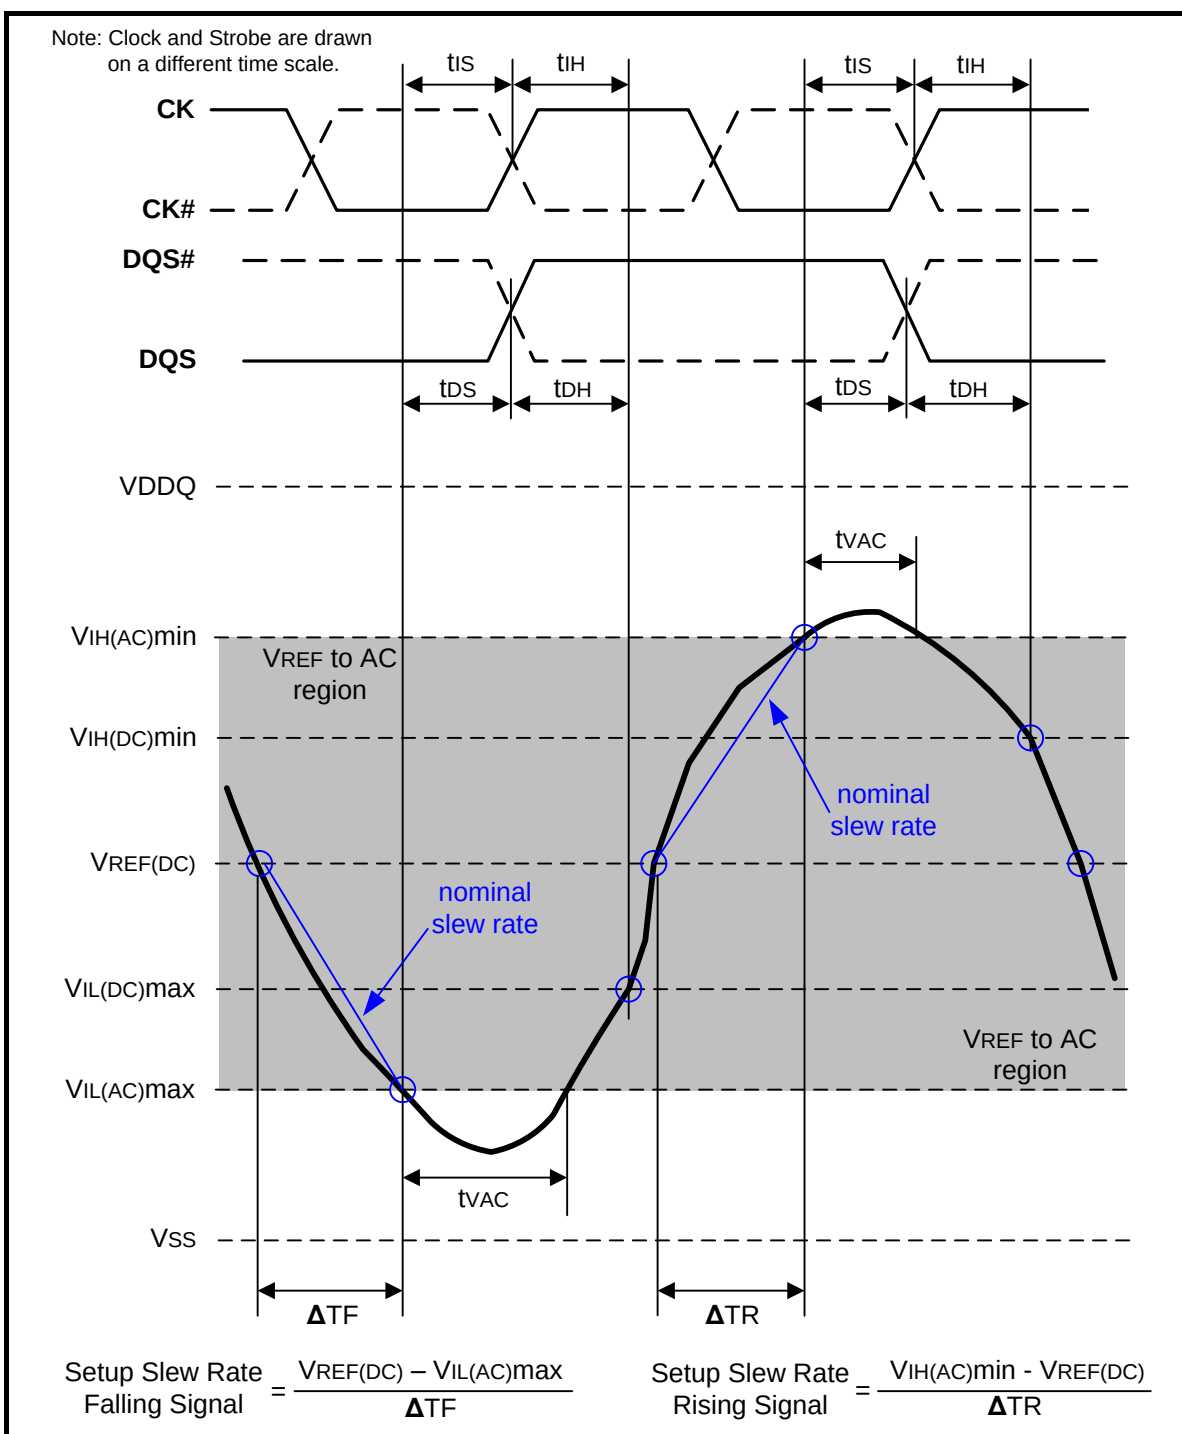
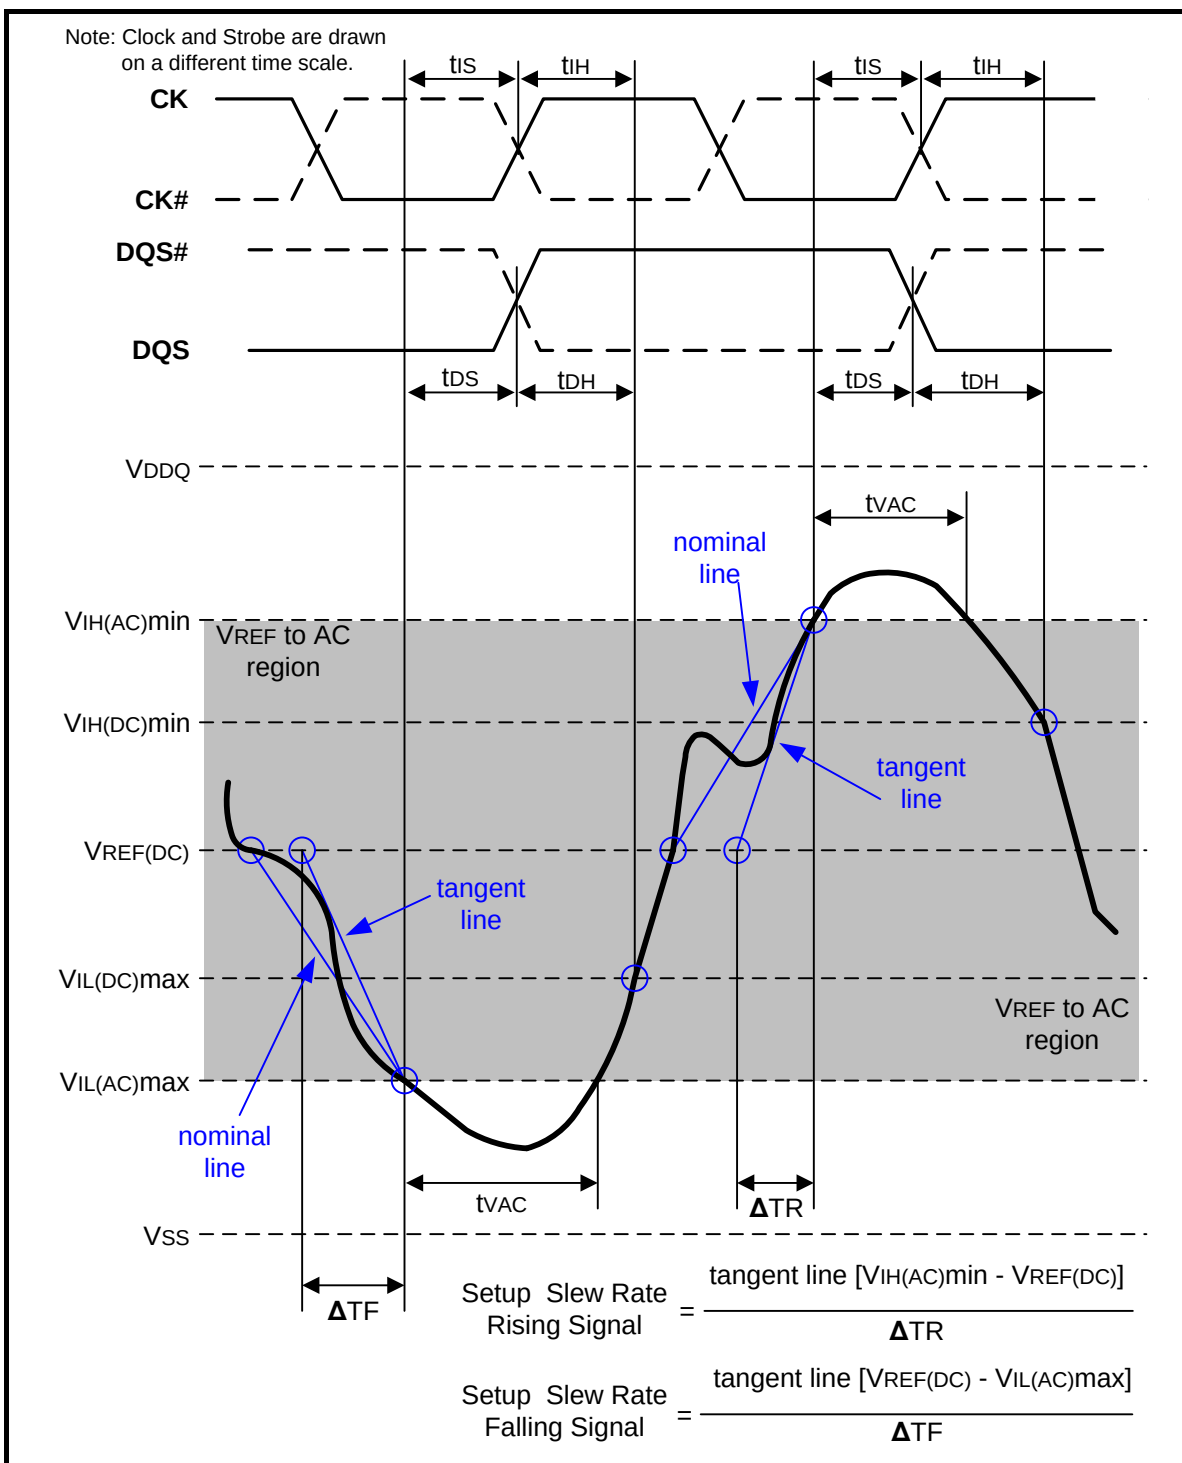

Figure 107 – Illustration of nominal slew rate and t_{vAC} for setup time t_{DS} (for DQ with respect to strobe) and t_{IS} (for ADD/CMD with respect to clock)
Figure 109 – Illustration of tangent line for setup time t_{DS} (for DQ with respect to strobe) and t_{IS} (for ADD/CMD with respect to clock)
Setup (t_{IS}) nominal slew rate for a rising signal is defined as the slew rate between the last crossing of $V_{REF}(\text{DC})$ and the first crossing of $V_{IH}(\text{AC})_{\text{min}}$. Setup (t_{IS}) nominal slew rate for a falling signal is defined as the slew rate between the last crossing of $V_{REF}(\text{DC})$ and the first crossing of $V_{IL}(\text{AC})_{\text{max}}$. If the actual signal is always earlier than the nominal slew rate line between shaded 'VREF(DC) to AC region', use nominal slew rate for derating value (see Figure 107). If the actual signal is later than the nominal slew rate line anywhere between shaded 'VREF(DC) to AC region', the slew rate of a tangent line to the actual signal from the AC level to DC level is used for derating value (see Figure 109).
Setup (t_{DS}) nominal slew rate for a rising signal is defined as the slew rate between the last crossing of $V_{REF}(\text{DC})$ and the first crossing of $V_{IH}(\text{AC})_{\text{min}}$. Setup (t_{DS}) nominal slew rate for a falling signal is defined as the slew rate between the last crossing of $V_{REF}(\text{DC})$ and the first crossing of $V_{IL}(\text{AC})_{\text{max}}$ (see Figure 107). If the actual signal is always earlier than the nominal slew rate line between shaded 'VREF(DC) to AC region', use nominal slew rate for derating value. If the actual signal is later than the nominal slew rate line anywhere between shaded 'VREF(DC) to AC region', the slew rate of a tangent line to the actual signal from the AC level to DC level is used for derating value (see Figure 109).